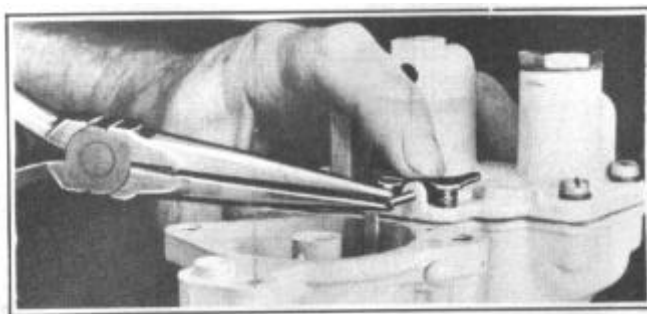

FIGURE 36
17. Install the anti-percolator cap and rocker arm assembly and spring, Figure 36. (Make certain that leather is in good condition and that pin is not worn.)